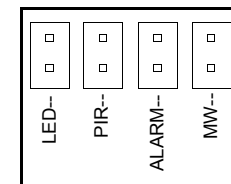

Fig. 4. Jumper block
The Jumper Block (see Fig. 4) is used to select operating modes, as follows:
**Test the width of the coverage.** Install the PIR Walk-Test jumper (Fig. 4) and replace the front cover. Walk across the coverage area and confirm LED response. Repeat with the MW Walk-Test jumper installed, and once again with the ALARM jumper installed.